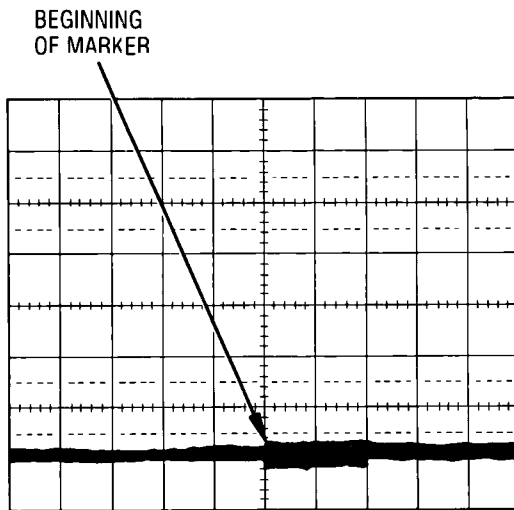

Figure 5-31. Z-Axis Marker Waveform
9. On the oscilloscope, position the marker to center screen with horizontal position control. Press oscilloscope **MAG** \times 10. Reposition the beginning of the marker at center line of screen with the horizontal position control. (See Figure 5-31.)